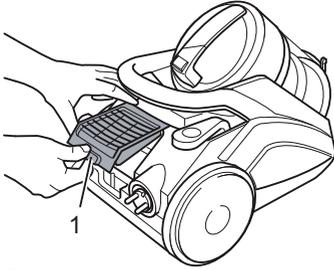

Fig. 32
2. Release the exhaust filter cover by the recessed handle provided for this purpose (Fig. 32/1) and remove it.
5011002	1 Exhaust filter cover (Fig. 32/1)